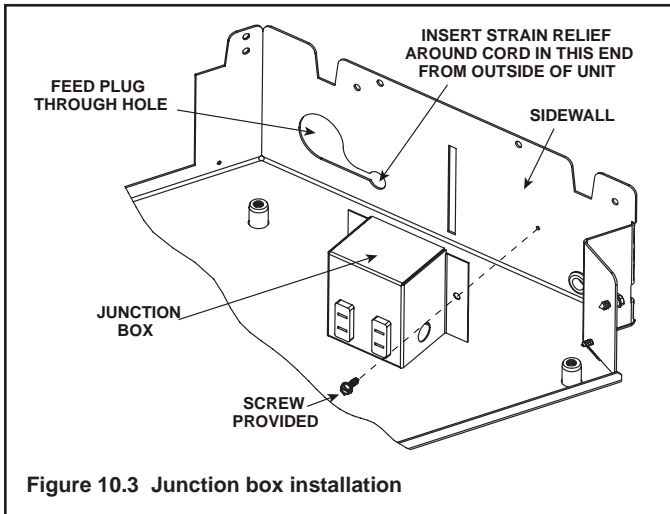

Figure 10.3 Junction box installation
- A 110 VAC junction box **MUST** be installed for use with a fan or remote control. See Figure 10.3 for junction box wiring. Keep wire lengths short as possible.